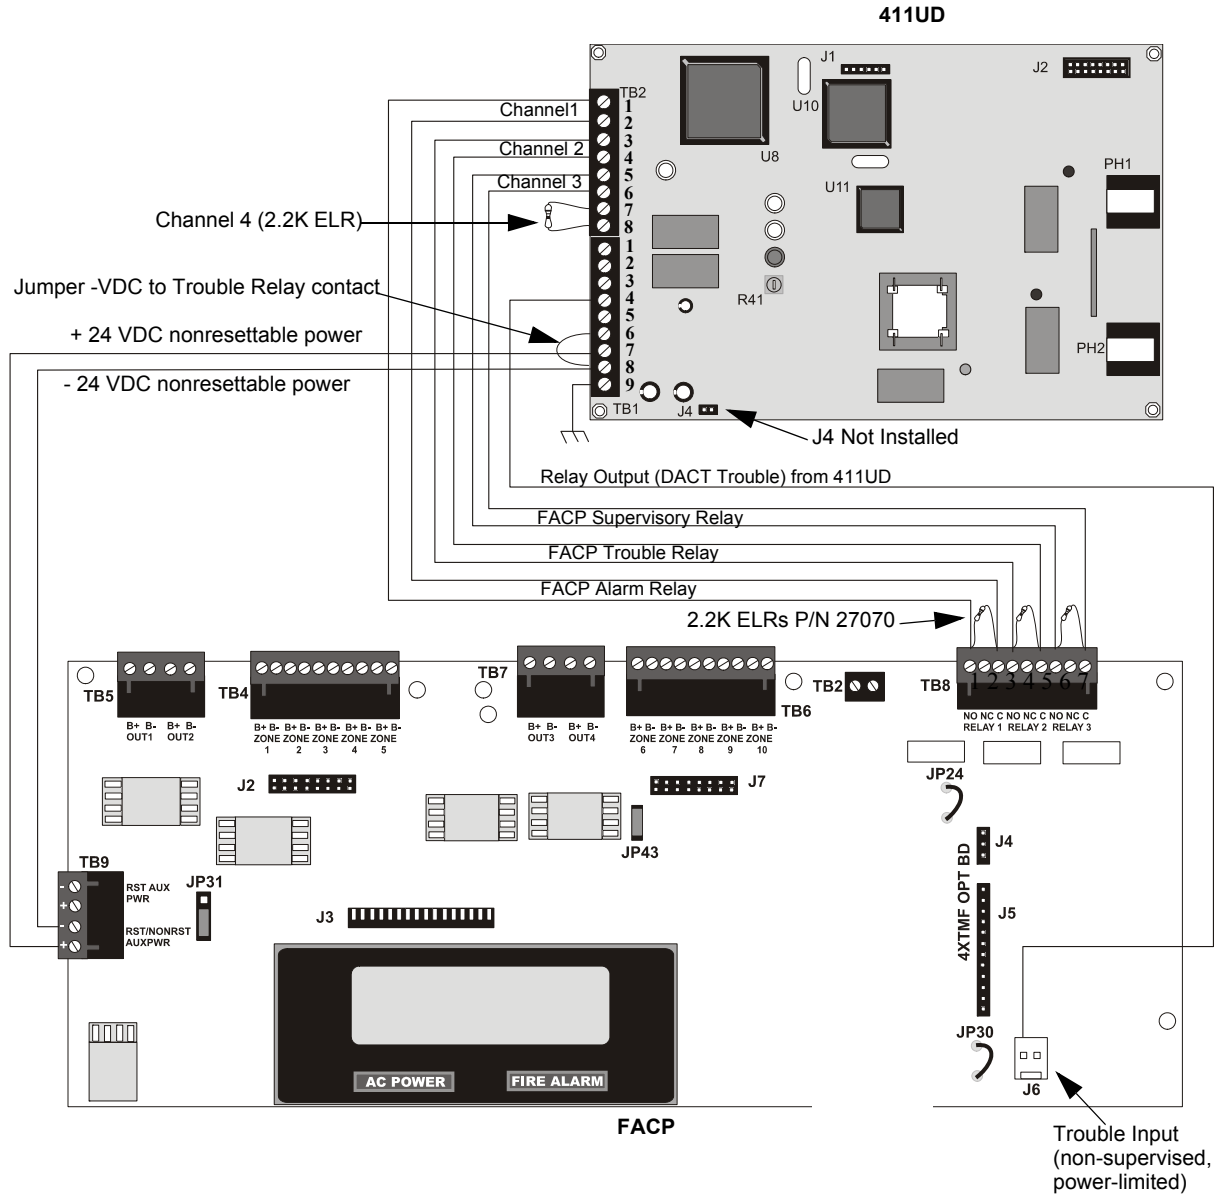

Figure B.1 MS-5UD/MS-10UD FACP Connection to 411UD
411UD may be installed as illustrated in Figure B.1, “MS-5UD/MS-10UD FACP Connection to 411UD,” on page 119.
5. Any zone of the 411UD can be wired to function as alarm, trouble or supervisory. In Figure B.1 on page 119, Channel 1/Zone 1 is wired to the control panel's alarm relay, Channel 2/Zone 2 is wired to the control panel's trouble relay and Channel 3/Zone 3 is wired to the control panel's supervisory relay